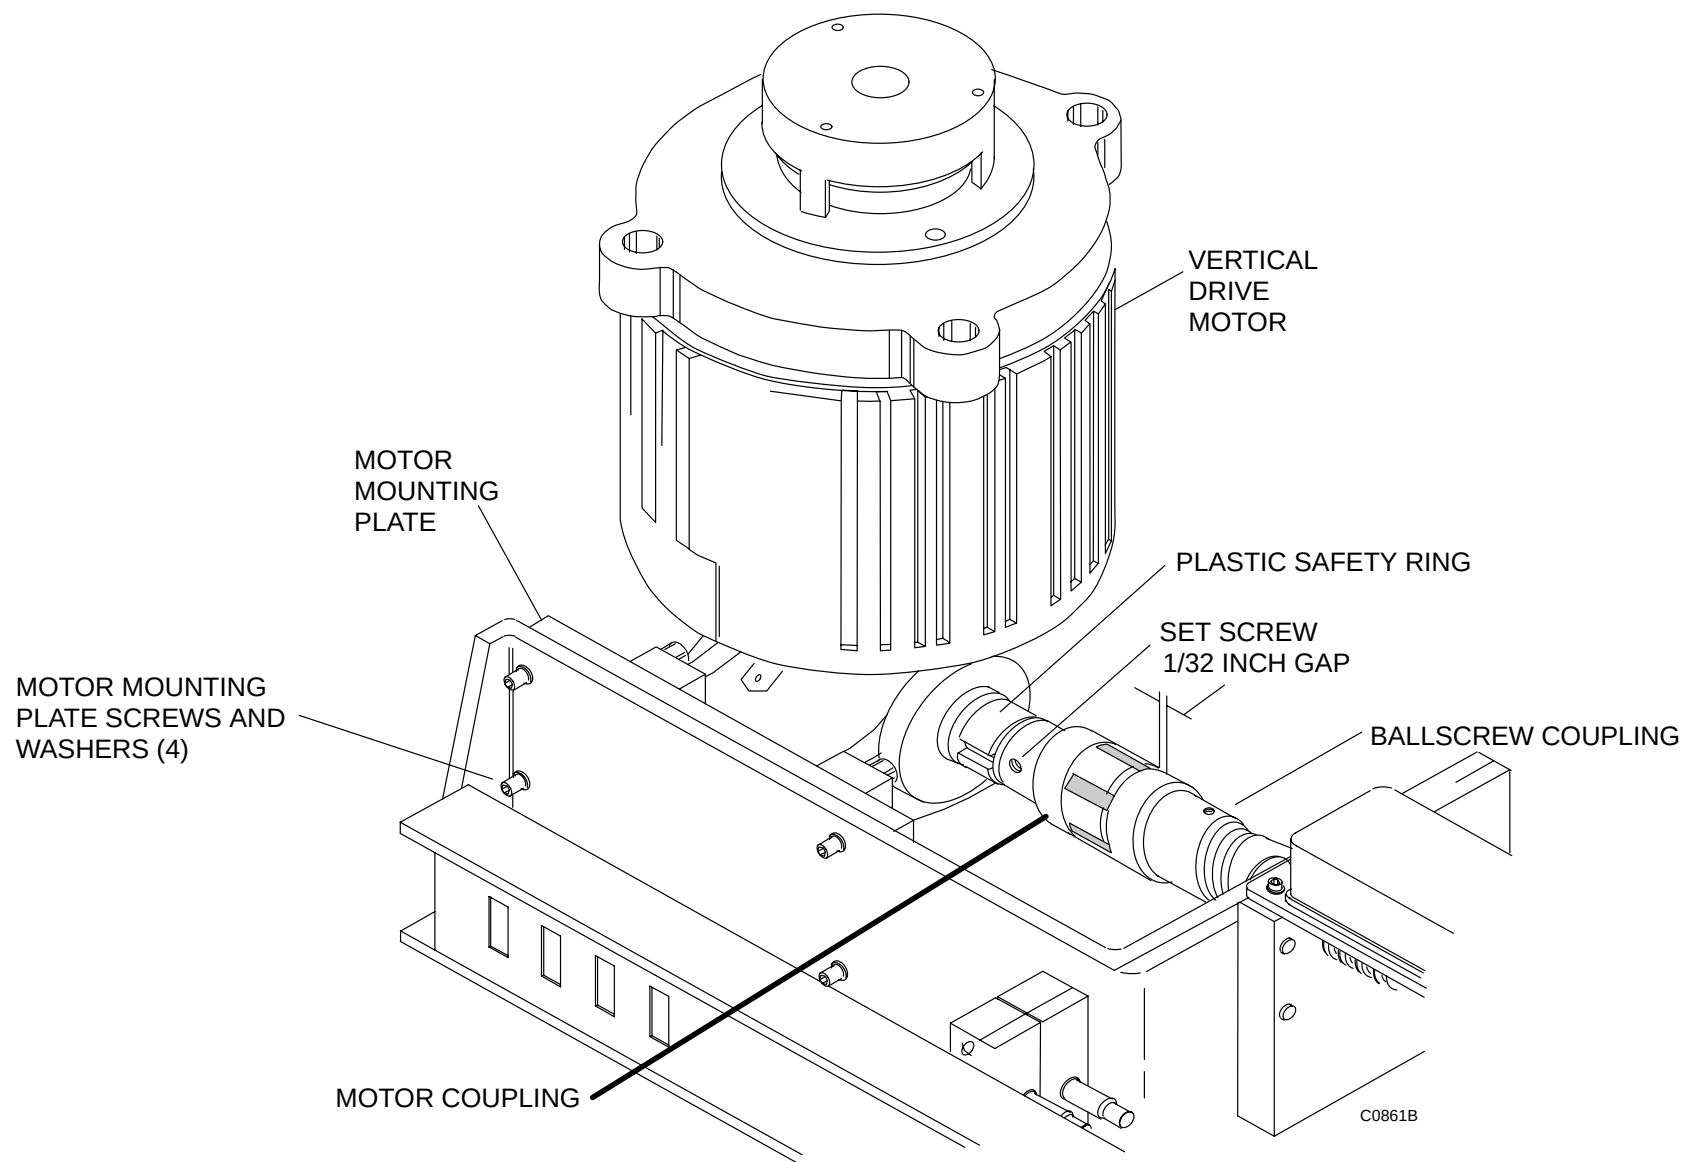

FIGURE 222 Vertical Drive Motor Mounting Plate Screws
10. Remove the four mounting plate screws and washers. See Figure 222.
34. Install the vertical drive motor by engaging the motor coupling into the ballscrew coupling. Leave a 1/32" gap between the jaws of the couplings. Refer to Figure 222.
35. Secure the motor mounting plate to the base with the four motor mounting plate screws and washers. Refer to Figure 222 .